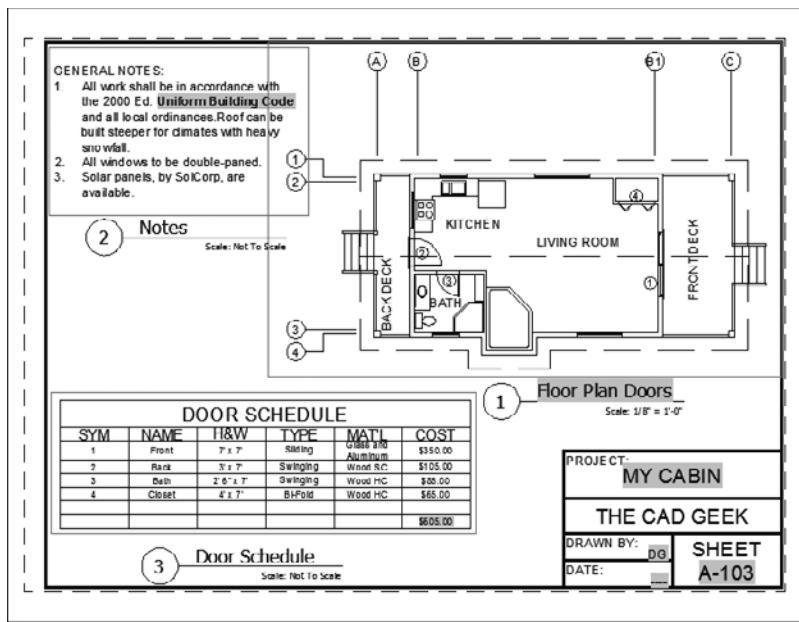

FIGURE 14.71 The new notes and table viewports
6. Make the A-ANNO-NPLT layer current, and then create a new viewport (refer to the “Creating the Paper Space Viewport” section if you need a refresher) in the lower-left corner of the layout (look ahead to Figure 14.71).
13. Copy the Drawing Title block under the new viewports, and edit the attributes as shown in Figure 14.71.